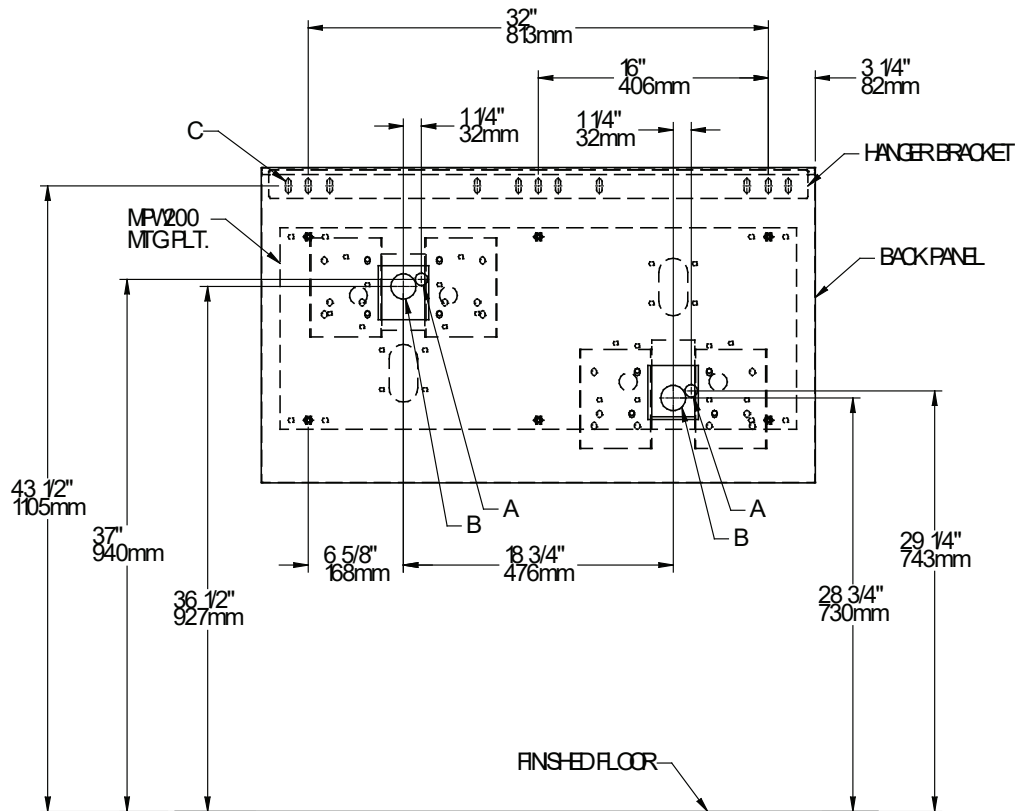

Figure 5 -Rough-in EDFPB(V)117C
1. **Fountains using the MPW Mounting Plate** refer to Figures 5 or 7 for hanger bracket location and rough-in dimensions.